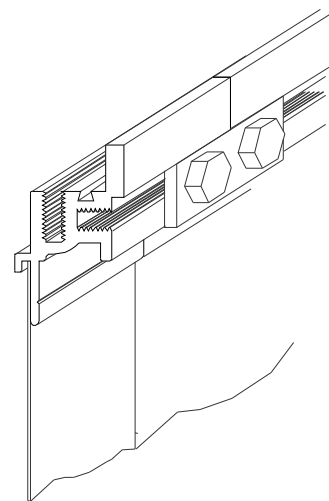

Figure 10
**STEP 5.** Attach the splice bar to the to the frame sections using the fasteners (part no. H1412S) provided by the factory (see Figure 10).